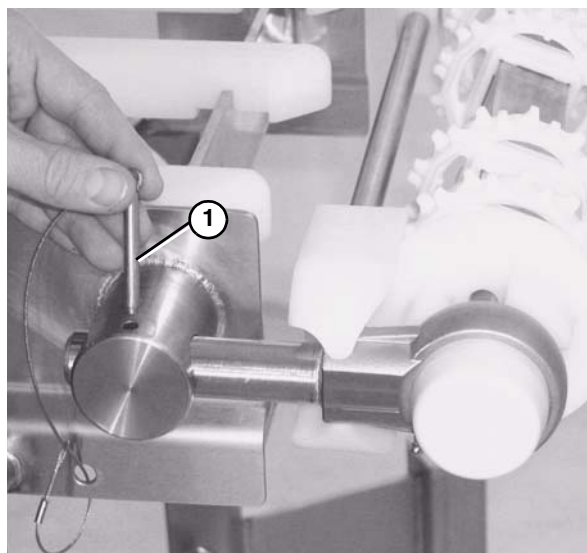

Figure 36
8. Insert the pull pins (**Figure 36, item 1**) on the tension end of the conveyor.